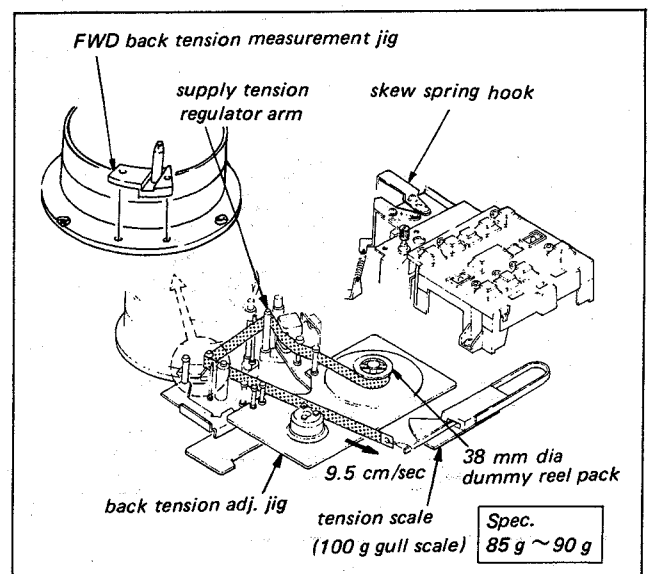

Fig. 5-2. FWD back tension adjustment (FWD mode)
1. Without threading tape, put the machine into the FR-STOP mode. Install the FWD Back Tension Measurement Jig (Jig Ref. No. J-11) on the machine as shown in Fig. 5-2, with two screws.
3. Install a 38mm diameter dummy reel pack tape (Jig Ref. No. J-8) on the Supply Reel-Table as shown in Fig. 5-2. And thread the tape as shown in Fig. 5-2. (Tape should be wound around the reel hub in the clockwise direction of 38mm diameter reel pack.) Put the machine into the FWD mode.
4. Hook a tension scale (100 g full scale) (Jig Ref. No. J-16) on an end of tape and pull it at the constant speed of approx. 9.5 cm/sec speed in the direction shown by Fig. 5-2.